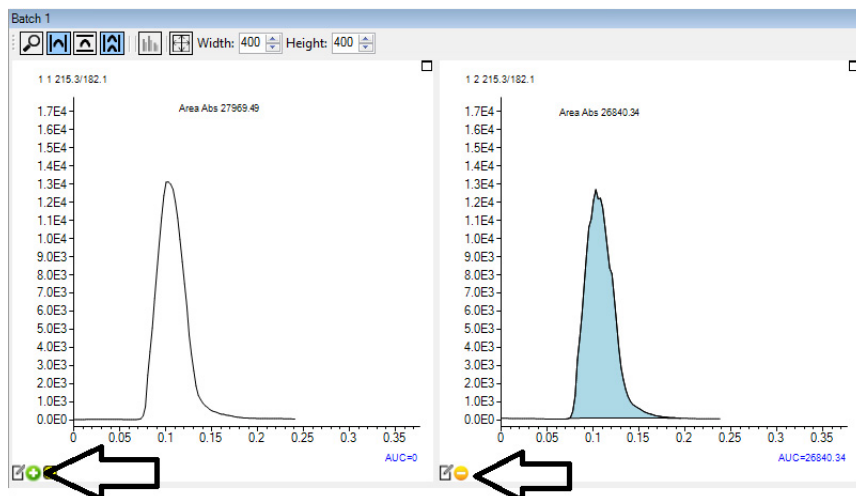

Figure 6. Reprocessing (left) and removing (right) MRM integration
- To remove an integration, in the individual chromatogram pane, click the orange **Remove Peak Integration** button. See **Figure 6**, right-side pane.
- To reintegrate the injection without applying any changes to the default parameters, click the bright green **Reprocess the injection** button. See **Figure 6**, left-side pane.